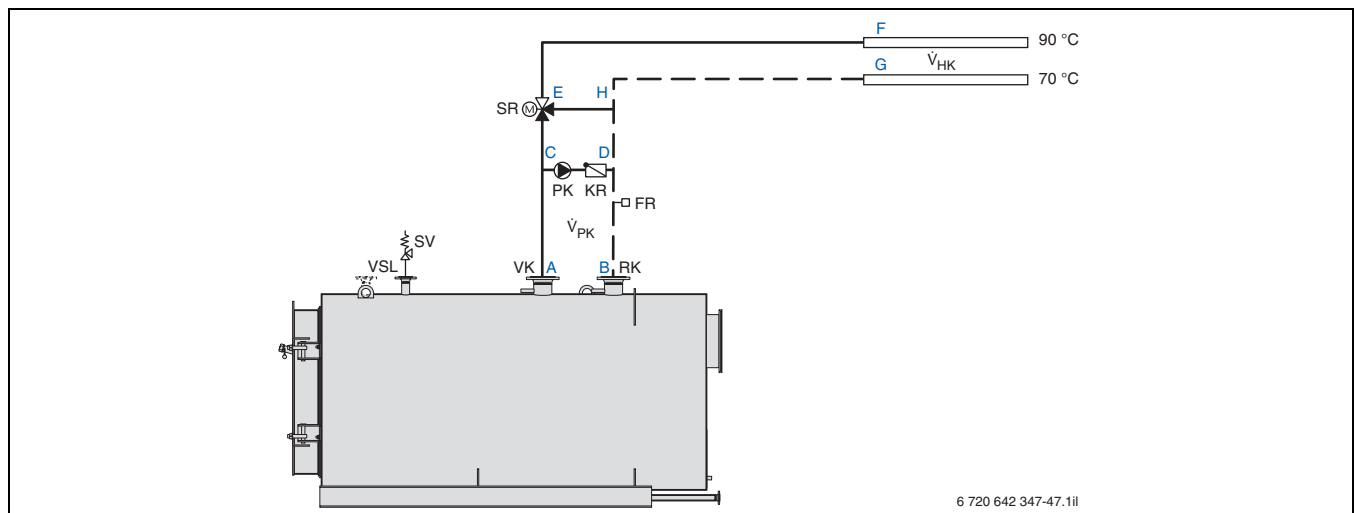

Fig. 56 Example of a hydraulic circuit for a single boiler system with boiler circuit pump in the bypass for Logano S825L/L LN or Logano plus SB825L/L LN
- All individual pressure drop levels in the boiler circuit (path: A-C-D-B, → Fig. 56)
- $\dot{V}_{PK} = 43000 \text{ l/h}$ (path: C-D, → Fig. 56)
(paths: C-F, D-G und E-H, → Fig. 56)
(paths: A-C und B-D, → Fig. 56)